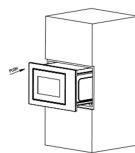

Fig.1
1. Put the microwave oven into built-in cabinet and push it forward to the end. (Fig.1)